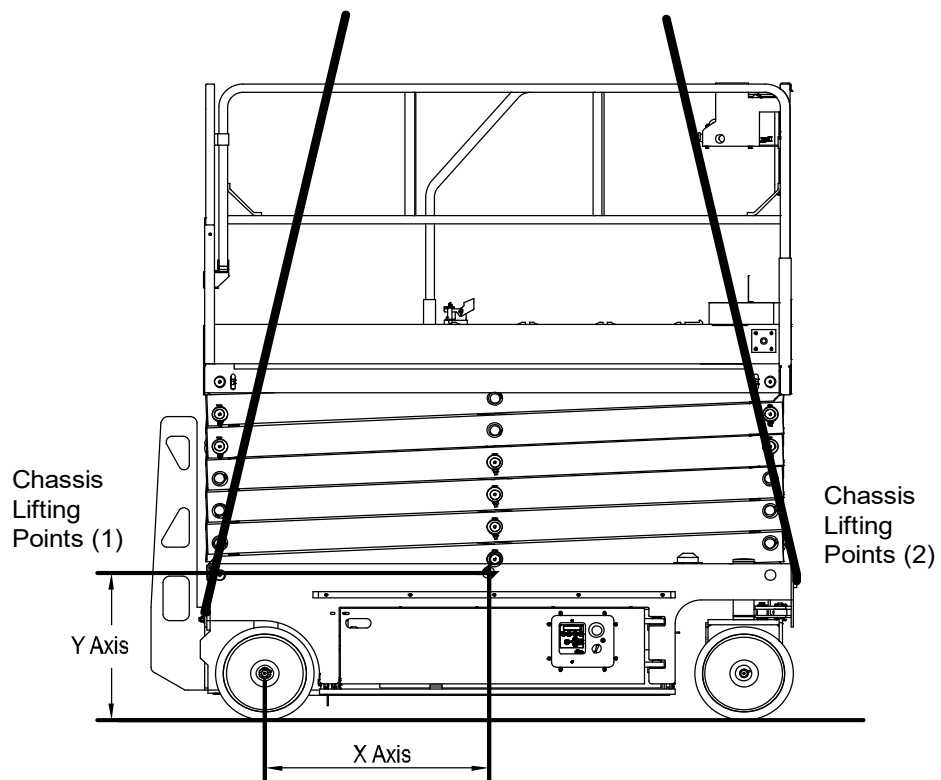

Figure 4-6 Center of gravity
- 2) Use Table 4-6 and Figure 4-6 to determine the center of gravity of the machine.